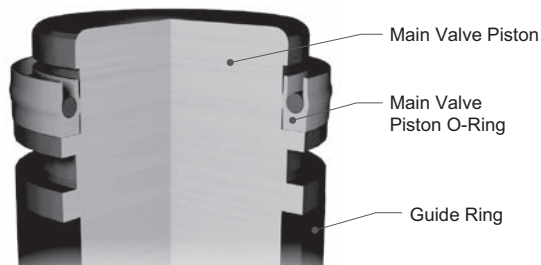

Figure 49: Main Valve Piston
10. For Teflon seals, make sure of the integrity of the Teflon seal and seal spring. Install Main Valve Piston Seal on Main Valve Piston outside diameter on the opposite end of the main valve piston seat as shown in Figure 49.